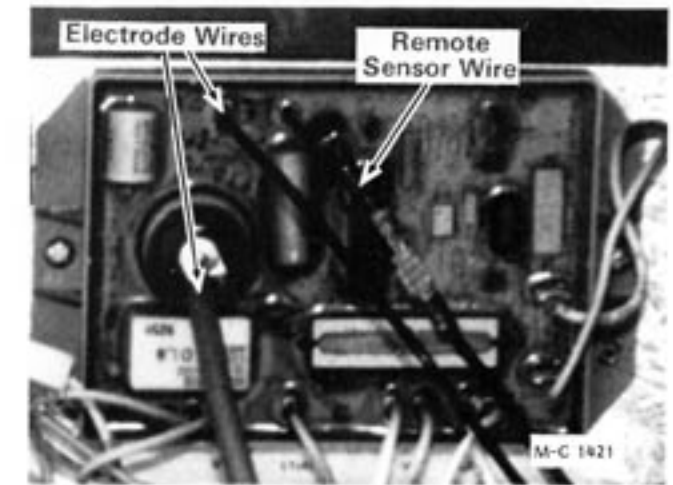

Figure 38
5. Check to be sure that there is 115V power to the ignition board. Connect a voltmeter between terminal A (L1) and L2 on the ignition board, see Figure 38 and 39.
A. Flip the ignition switch OFF. Remove the electrode wires from terminals E-1 and E-2 on the ignition board, see Figure 38 and 39.